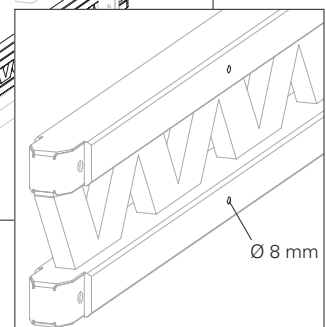

Fig. C2.02a
2. Pre-drill the platform beams, in this case, GT 24 (**75**), with $\varnothing 8$ mm holes according to the drilling plan. (Fig. C2.02a)